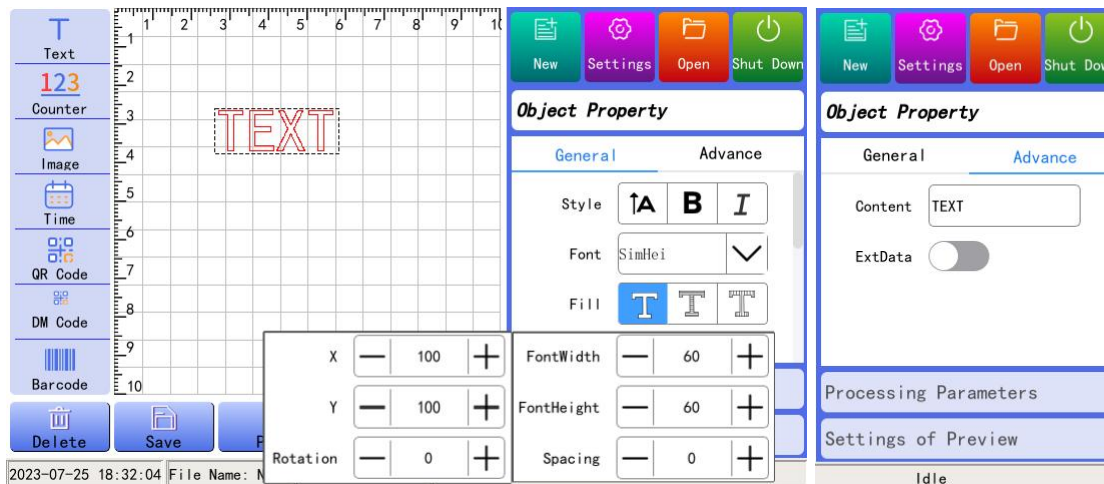

Figure 3.2.2.1 Text editing
① If you want to print Chinese characters (CN), English (EN), numbers, symbols and other contents, please click the "Text" button in the "Information button area", and a default text entry will appear in the "Information editing area". As shown in Figure 3.2.2.1.